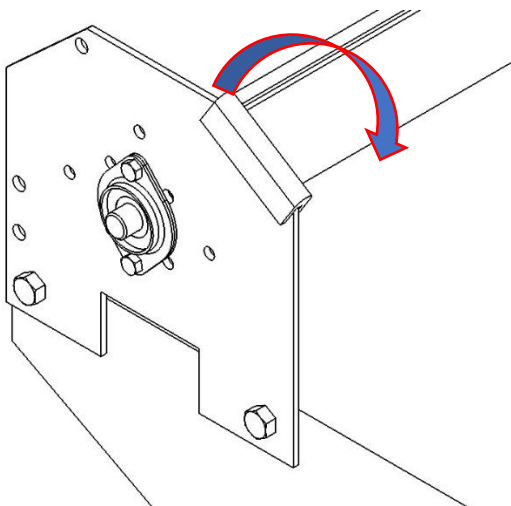
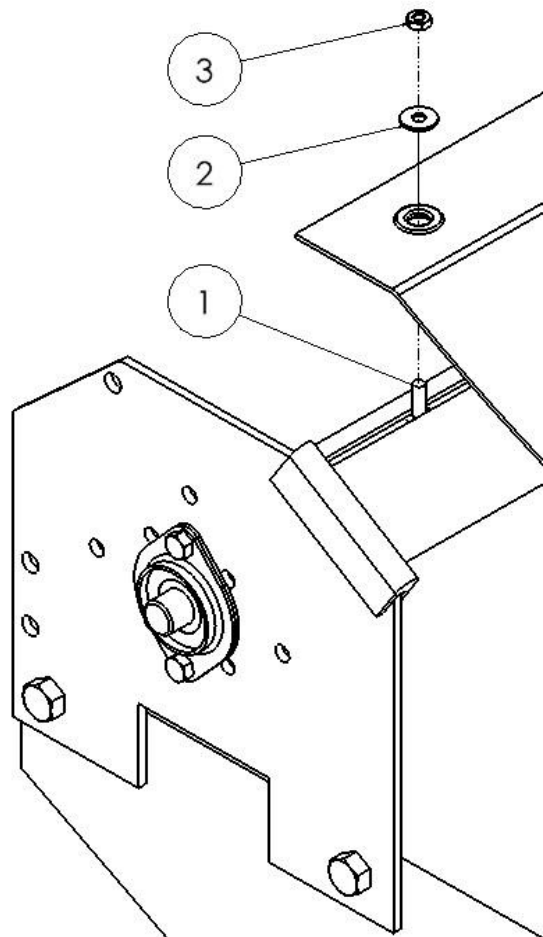

Figure A.11
Figure A.12
Wind the tarp axle clockwise from the driver side (Figure A.11) of the dump box according to the number of turns listed in Table A.1. Have one person hold the axle so that it does not unwind while the other person attaches the tarp via the tarp grommets, 1/4" carriage bolts (1), 1/4" washers (2), and 1/4" nylock nuts (3). (Figure A.12)